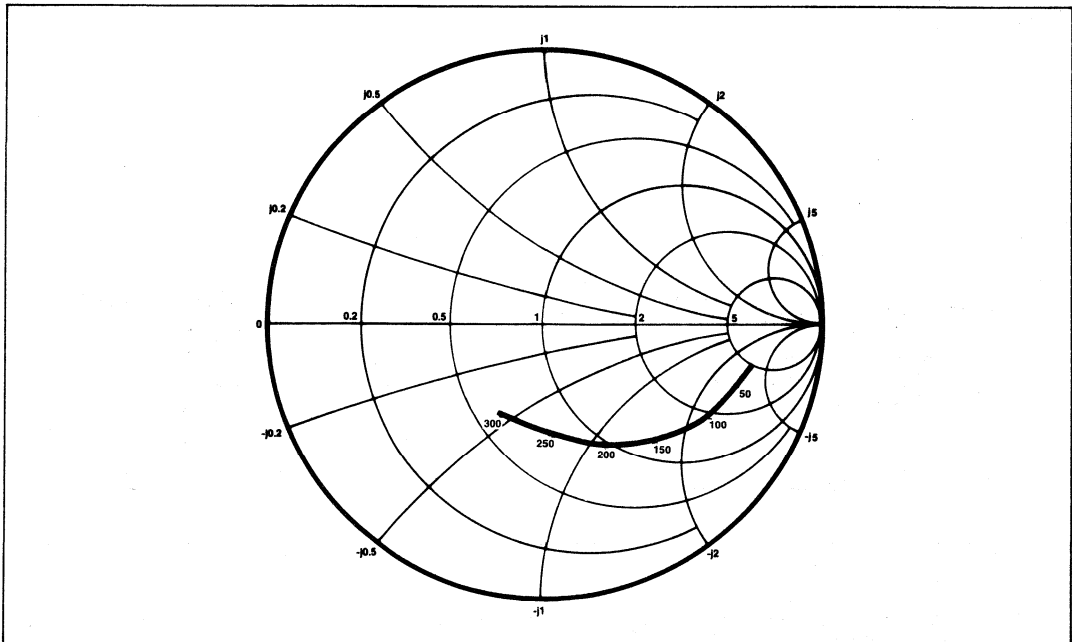

Fig.5 Typical input impedance. Test conditions: supply voltage -5.2V, ambient temperature 25°C, frequencies in MHz, impedances normalised to 50 ohms.
6. The input impedance of the SP8720 varies as a function of frequency. See Fig. 5.